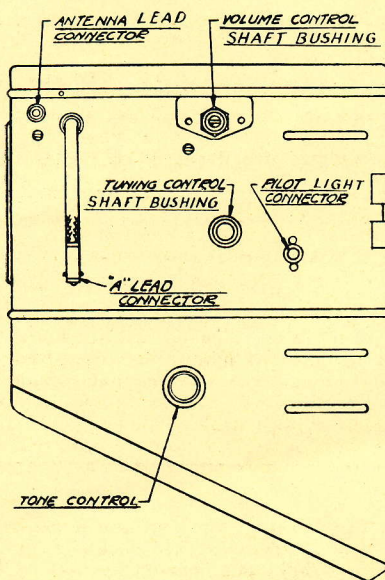

FIGURE 3
7. Connect the antenna lead in its receptacle on the end of the Receiver housing (See Figure 3).
3. The volume control flexible shaft is on the left and must be coupled in the upper shaft bushing on the end of the Receiver housing (See Figure 3). The knurled shaft nut must be tightened securely.
6. The tuning control flexible shaft must be coupled in the proper shaft bushing on the end of the Receiver housing (see Figure 3). The knurled shaft nut must be tightened securely.
7. Connect the terminal on the pilot light wire to its receptacle on the end of the Receiver housing (see Figure 3).
2. Place the fuse and fuse insulator in the small metal fuse housing on the end of the "A" lead and connect it to the short Receiver "A" lead (see Figure 3).
The tone control knob is on the control end of the Receiver housing near the front (see Figure 3). It should be adjusted to the tone most pleasing. There are four (4) positions: brilliant, bright, mellow, and deep. Speech is clearest when in bright or brilliant, while usually orchestras will sound best on bright or mellow.